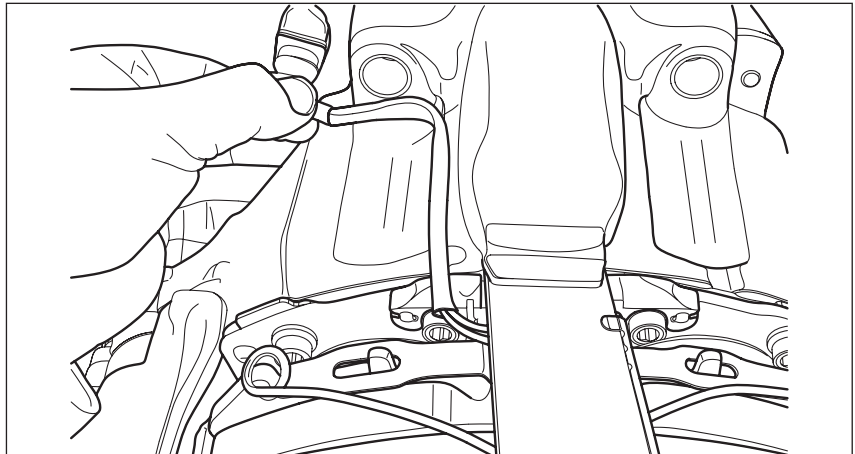

Figure 17
4. Observe correct routing of PWWI cable. (Figure 17)